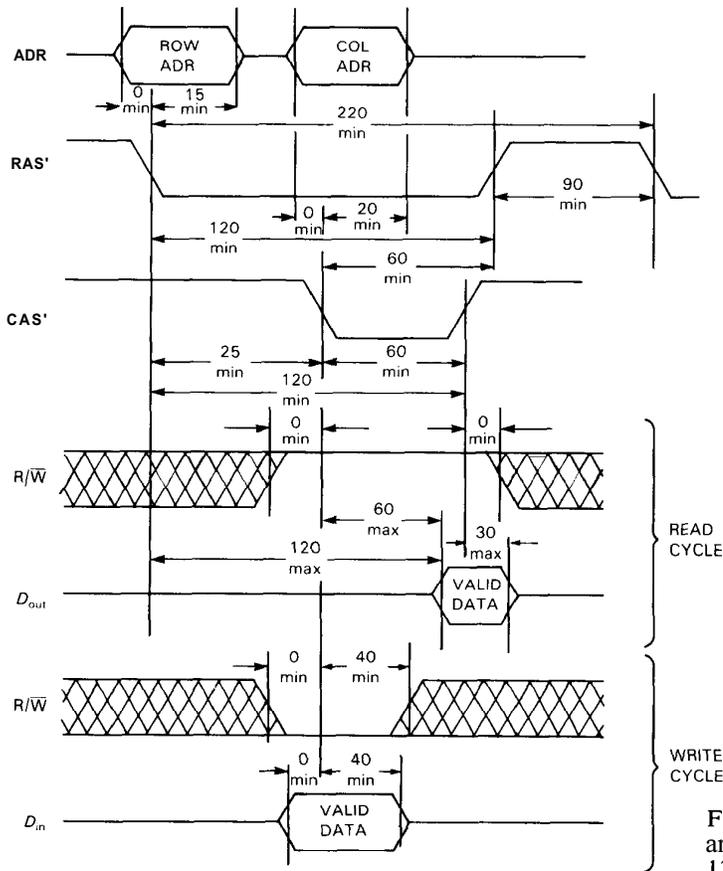

Figure 11.31. DRAM READ and WRITE cycles (Hitachi, 120ns).
**Dynamic RAM.** By comparison with SRAM, DRAM is a royal headache. Figure 11.31 shows a normal cycle. The address (e.g., 20 bits for 1M DRAM) is split into two groups and multiplexed onto half the number of pins, first the "row address,"